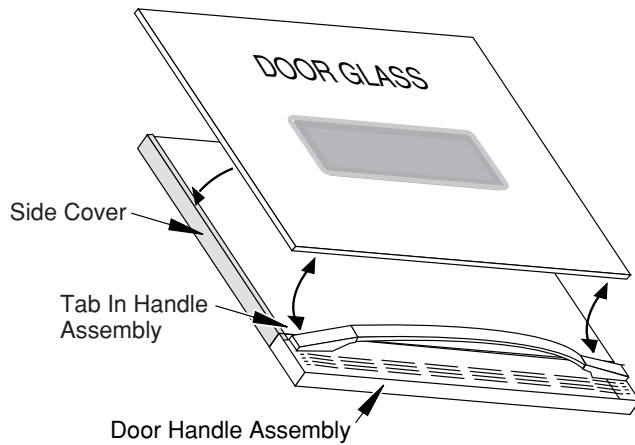

Figure 4-19
5. Lift the bottom of the door glass and slide the top out from under the two tabs in the door handle assembly (see Figure 4-19).